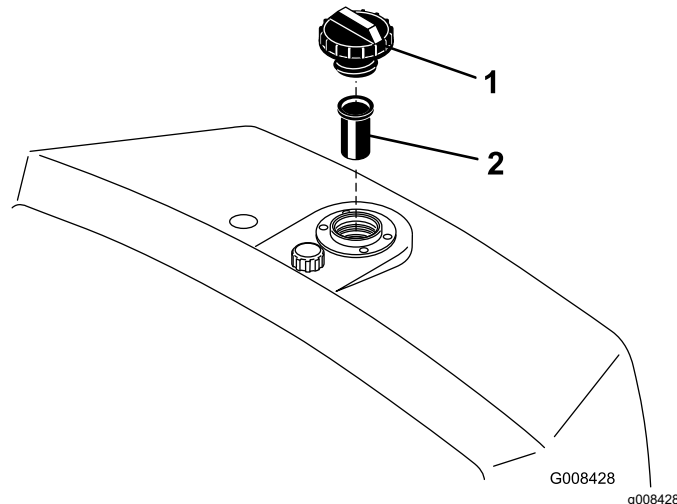

Figure 50
2. Remove the cap from the reservoir and check the fluid level. The fluid should be up to the bottom of the screen in the filler neck (Figure 50).